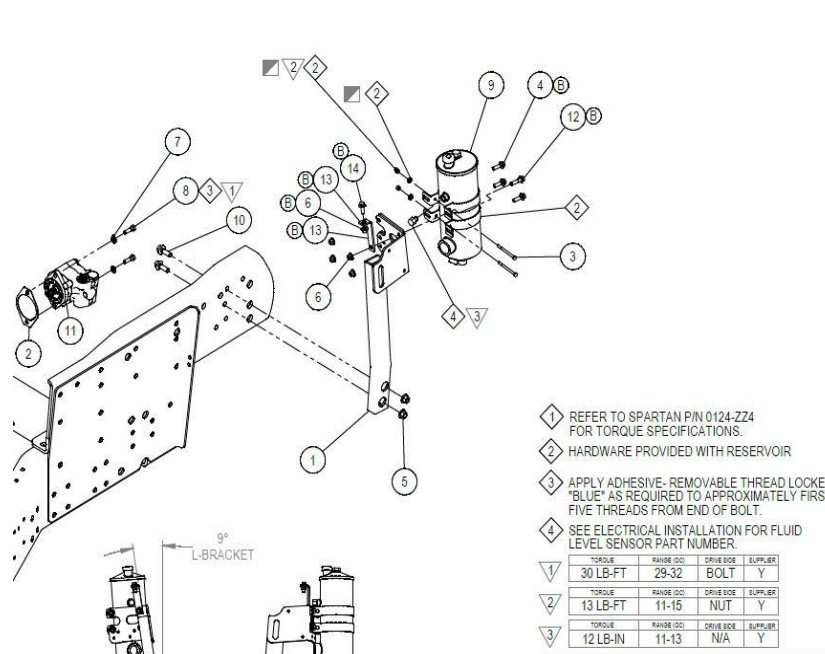

FIG 5.1
5. Install power steering pump with new gasket. Torque power steering pump fasteners to 30 ft.lbs. Refer to Figure 5.1